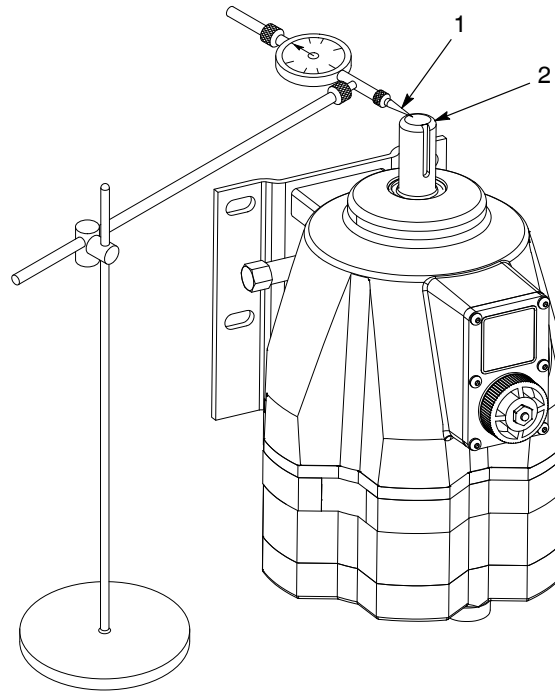

Figure 2 Checking Cam Shaft End Play
1. See Figure 2. Position the dial indicator tip (1) on the end of the cam shaft (2).